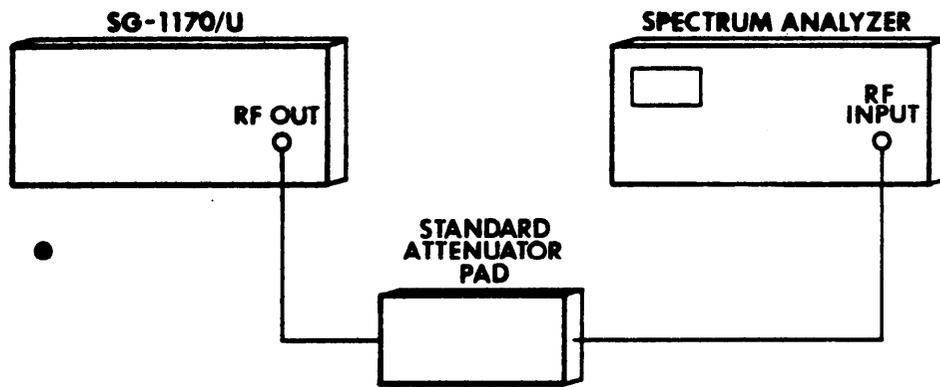

Figure 4-1. Set-up for Step Attenuator Tests
4. Disconnect the power sensor from the front-panel RF OUT connector. Connect a standard 10 dB attenuator pad to the RF OUT connector. Connect the output of the attenuator pad to the spectrum analyzer as shown in Figure 4-1.
**NOTE: To test the OUTPUT Step Attenuator below -20 dBm, an RF amplifier (> 20 dB gain) is required. Insert the amplifier between the standard attenuator pad and the spectrum analyzer (Figure 4-1). The allowable error for the -90 dBm setting (step 11) is ±1.5 dB. The OUTPUT Step Attenuator can be tested down to the -130 dBm position if a 40 dB R F amplifier is used and if precautions are taken to properly shield the RF output from the instrument proper.**